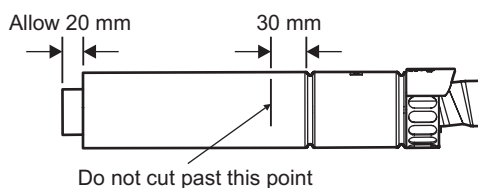

Fig. 5.10
5.7 REDUCING THE FLUE - Fig. 5.10
When the flue length required is less than the minimum stated in Section 5.6, paragraph 1, refer to Fig. 5.10.